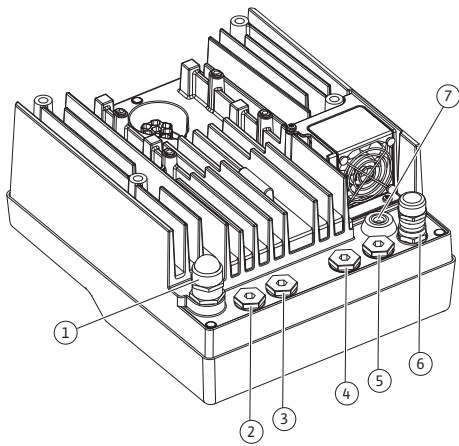

Fig. 23: Threaded cable glands / cable entries (0.37 kW to 7.5 kW)
There are six cable entries to the terminal box on the electronic module (Fig. 23). The cable for the power supply of the electric fan on the electronic module is mounted at the factory. The requirements for electromagnetic compatibility must be observed.
4. Lead connection cable through the M25 threaded cable gland (Fig. 23, Item 1, for 0.37 kW to 7.5 kW).